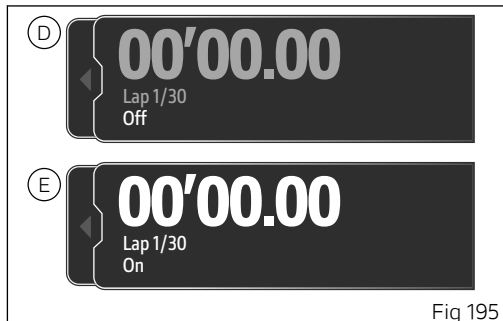

Fig 195
- If the function is disabled, "Off" is shown in white with the stopwatch and indication of the available laps in grey (D, Fig 195); press ENTER to enable the function.
- If the function is enabled, "On" is shown with the stopwatch and indication of the available laps in white (D, Fig 195); press ENTER to disable the function.